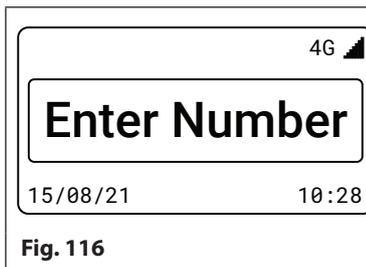
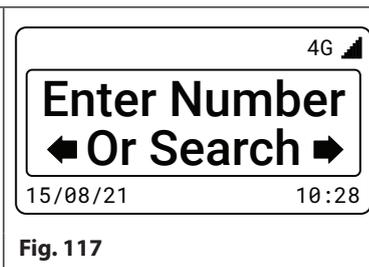

Fig. 116
Fig. 117
When the digital GSM intercom is in standby the display will show the standard welcome message, refer to **Fig.116** (Art.4812) and **Fig.117** (Art.4812R). The date and time is shown along the bottom of the display and the signal is indicated at the top right corner of the display.
**IMPORTANT NOTE:** Whenever a fob/card is presented to the **Art.4850R** expansion reader or an access code entered via the **Art.4903** keypad the display of the digital GSM will remain the same, i.e. it will continue to show the default welcome screen, refer to **Fig.116** and **Fig.117** on page 69, regardless of which one of the actions described above takes place.